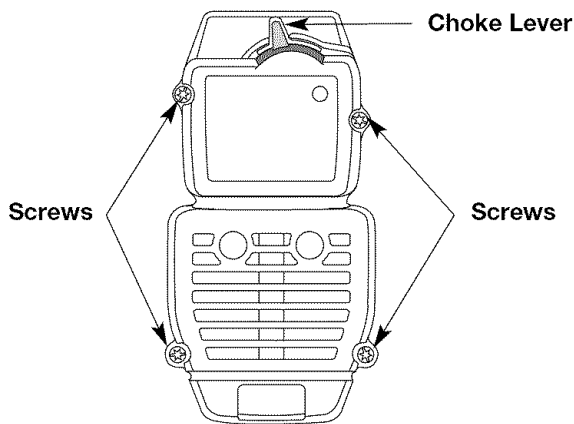

Fig. 13
**NOTE:** The choke lever must be in Position 2 (Fig. 13) to remove the air filter/muffler cover.
2. Remove the four (4) screws securing the air filter/muffler cover (Fig. 13). Use a flat blade or T20 Torx bit screwdriver.
3. Insert the four (4) screws into the holes in the air filter/muffler cover (Fig. 13) and tighten. Use a # T20 Torx bit screwdriver. Do not over tighten. Do not force.